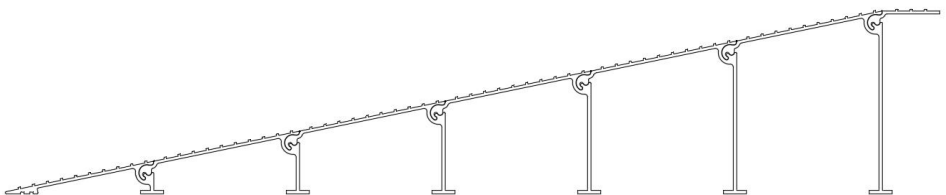

FIG.1
- (1) Before starting the installation, please wear gloves to protect your hands.
- (2) Choose an appropriate installation location, ensuring that the ground is level and firm.
- (3) Align and interlock each section of the ramp together until all parts are even.
- (4) Starting with the 1" extension, install the threshold extensions in the order shown (FIG. 1) until the final height is reached. Bring the threshold extensions together at an approximate 45° angle, then rotate them into place after the bulb is engaged in the slot.